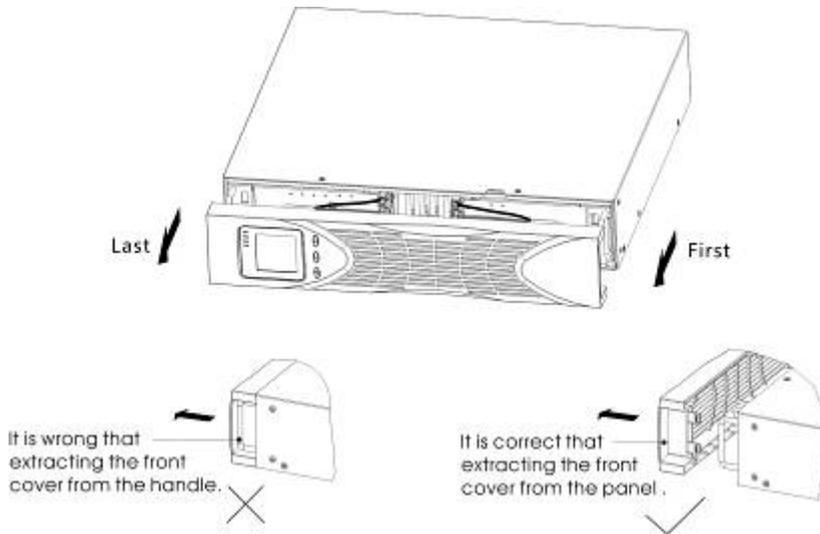

Figure10 Removing the EBP Front Cover
1. Remove the front cover of each EBP and UPS (see Figure 10).
2. On the bottom of the UPS front cover, remove the EBP cable knockout (see Figure 10).